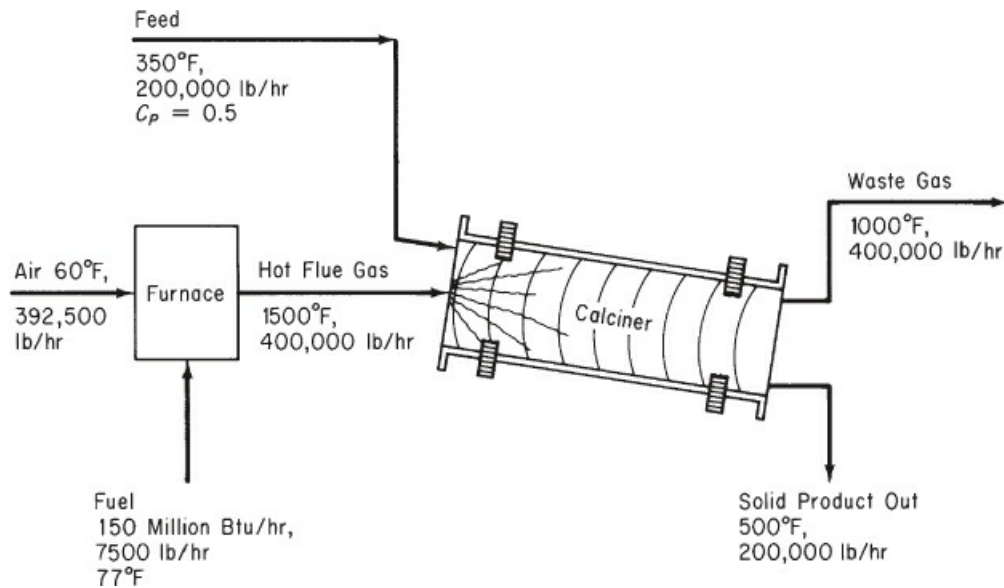

Figure P14.4
- 14.4** Figure P14.4 shows a calciner and the process data. The fuel is natural gas. How can the energy efficiency of this process be improved by process modification? Suggest at least two ways based on the assumption that the supply conditions of the air and fuel remain fixed (but these streams can possibly be passed through heat exchangers). Show all calculations.